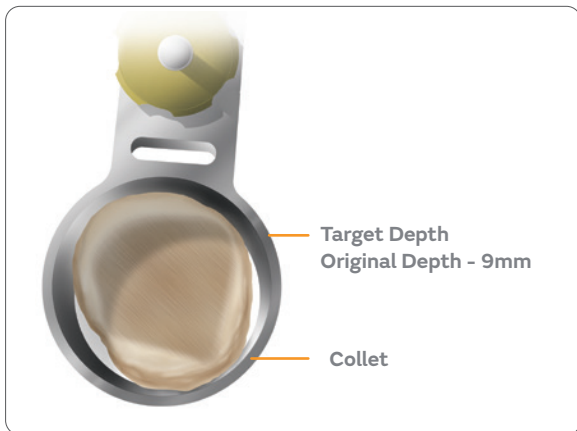

Figure 80
6. After reaming, the patella should have a completely flat articular surface (**Figure 80**). Measure the resected patella to ensure adequate resection (the resected patella should measure its original depth minus 9mm).